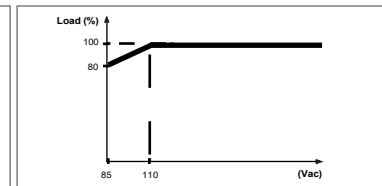

Fig. 6. Input Voltage De-rating Curve
- Output de-rating is required at 85-110Vac (Refer to Fig. 6).